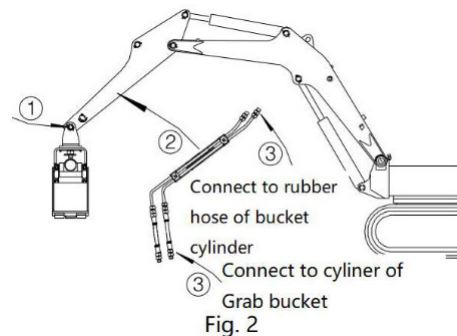

Fig. 2
- 2) Install the bucket directly on the bucket bar (as shown by arrow ① in Fig. 2).
- 3) The bucket pipeline assembly will be installed in the bucket body connection seat (as shown in Figure 2 arrow ②).
- 4) Then connect the original bucket cylinder piston oil inlet to the piston grab bucket cylinder oil inlet, the original bucket cylinder rod oil inlet to the grab bucket cylinder rod oil inlet (as shown in Figure 2 arrow ③).